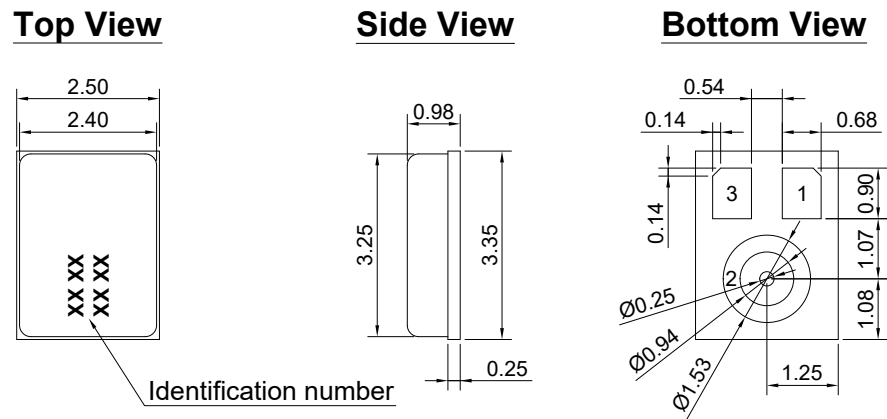

Figure 8. Mechanical Layout of SMO06C-38
- 6.3.1. Layout and Dimension : See Section 9, Figure 8